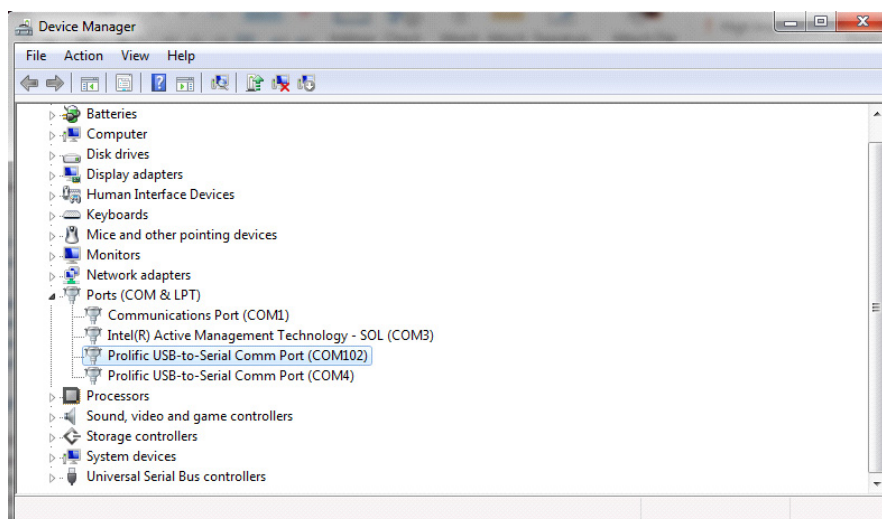

Figure 1: Example: Device Manager with sample port COM102 assigned to ASC0
- on Windows systems COMx for the ASC0 interface (see Figure 1; sample port COM102),